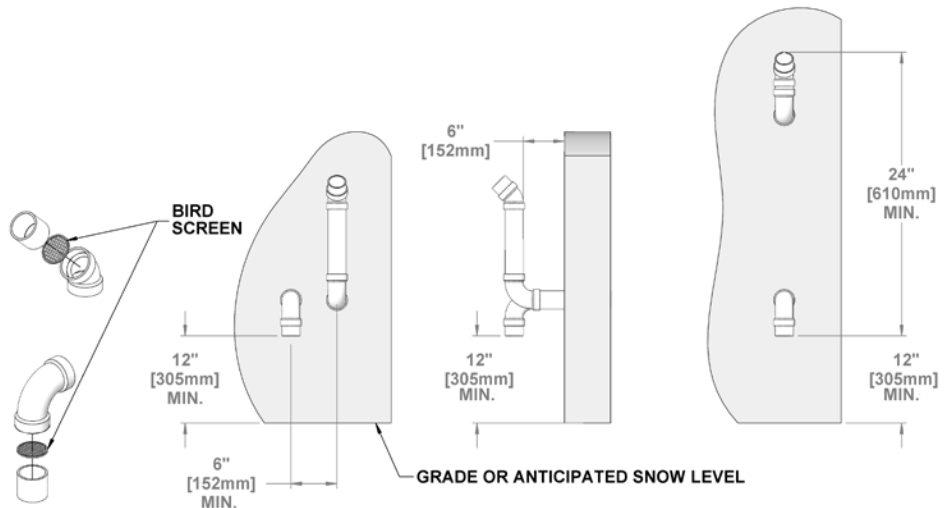

Figure 10: Sidewall vent termination - piping configuration
- The elevation of both terminations can be raised in "periscope style" after passing through the wall, then configured as in Figure 10, to gain required clearance.